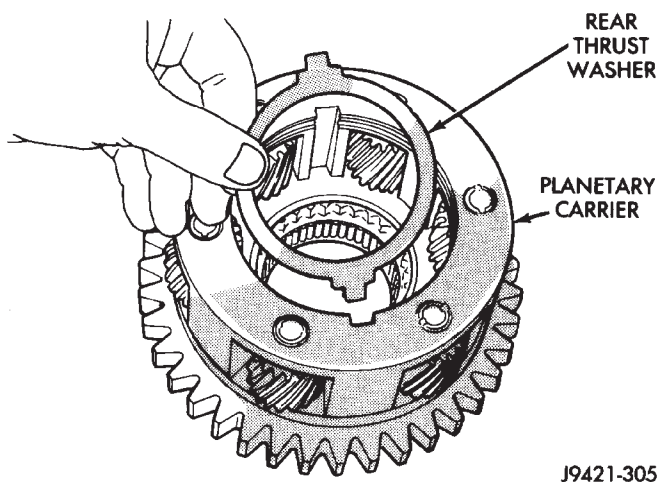

Fig. 46 Rear Thrust Washer Removal
- (6) Remove rear thrust washer (Fig. 46).